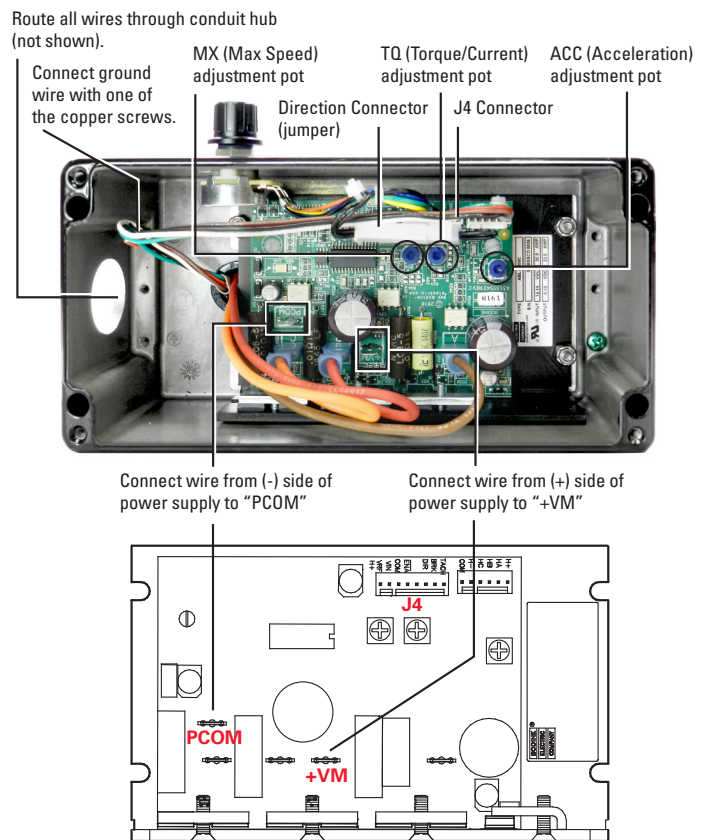

Figure 1 – Location of Control Components and Connections
- Refer to Figure 1 and insert the potentiometer leads into the interface connector as follows:
- The Max Speed (MX) potentiometer on the control board may be used to limit the maximum gearmotor speed obtainable with the control.